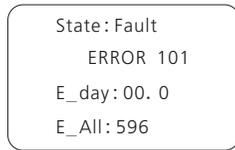
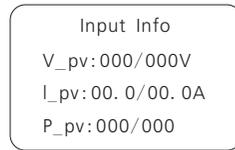
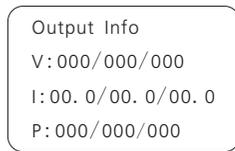
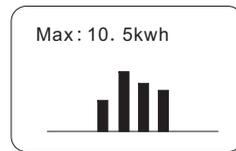

Fig6.3.8 Interface 1: Running state
Fig6.3.9 Interface 2: Input information
Fig6.3.10 Interface 3: Output
Fig6.3.11 Interface 4: 24 hour's generation curve
**Interface 2:** Input information. See Fig6.3.9 for reference. This interface displays parameters of PV input, including input voltage, current, and power of each MPP tracker.
**Interface 3:** Output information. See Fig6.3.10 for reference. This interface displays output information of inverter, including output voltage of each phase, output current of each phase, and output power of each phase.
**Interface 4:** 24 hour's generation curve. See Fig6.3.11 for reference. This interface shows the generated power of every hour this day.
During cloudy days or in the area of low light, it's inconvenient for users to check inverter running information such as state, input data, output data, energy generated. In this case user can light the backlight and check those data by single knock, a single knock will switch LCD screen to a following interface. The interface display on LCD screen will circle as follow: Fir6.3.8 -> Fig6.3.9 -> Fig 6.3.10 -> Fig6.3.11-> Fig6.3.12, and then again Fig6.3.8.